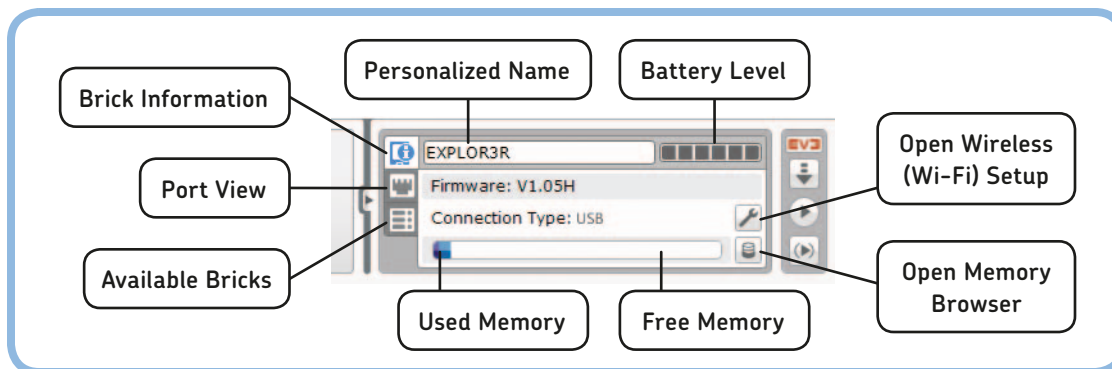

Figure A-6: The Brick Information tab of the Hardware Page
You can find information about the EV3 brick and devices connected to it on the Hardware Page, as shown in Figure A-6. The Brick Information tab shows the name, the battery level, and the firmware version of the EV3 brick that's currently connected. To change the name of the EV3, type a new name in the indicated field and press the ENTER key. The personalized name should also appear at the top of the EV3 brick's display. This name helps to
2. On the Brick Information tab of the Hardware Page, click **Open Wireless (Wi-Fi) Setup** (see Figure A-6). The EV3 brick should turn on Wi-Fi automatically and begin searching for wireless networks. When it's ready, choose your network from the list that appears on the computer screen and then click **Connect**. If you get an error message saying "No Wi-Fi Adapter found attached to the Brick," the EV3 brick didn't detect a (compatible) Wi-Fi dongle.